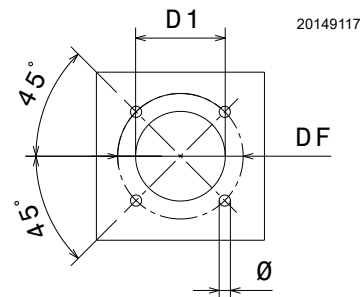

Fig. 13
Pierce the closing plate of the combustion chamber, as in Fig. 13. The position of the threaded holes can be marked using the thermal insulation screen supplied with the burner.
- Fit the entire burner onto the boiler hole prepared previously (Fig. 13 on page 20), and fasten with the screws supplied.